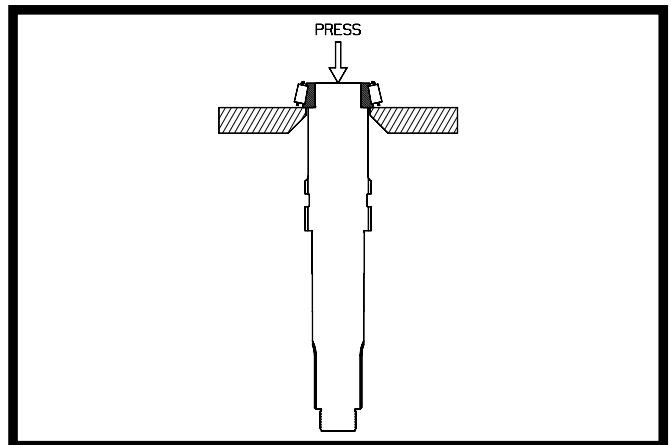

Figure 4.23
4. Invert the shaft assembly in the press so that the remaining bearing cone is supported. See Figure 4.23. Remove the bearing cone assembly.